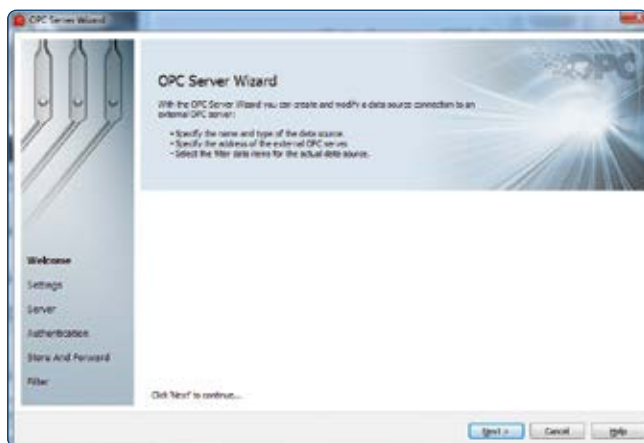

Figure 72: OPC Server Wizard.
5. Click on the add a new data source button. The OPC Server Wizard starts on the widget (Figure 72).